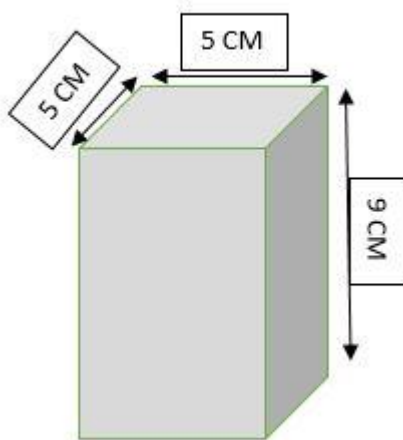

Figure 3A: Dimension of the Blocks
- Dimension of each block is 5cm x 5cm x 9cm as shown in Figure 3A. (If the Thermocol sheets of required dimensions are not available then the teams may cut or join the available sheets on their own)